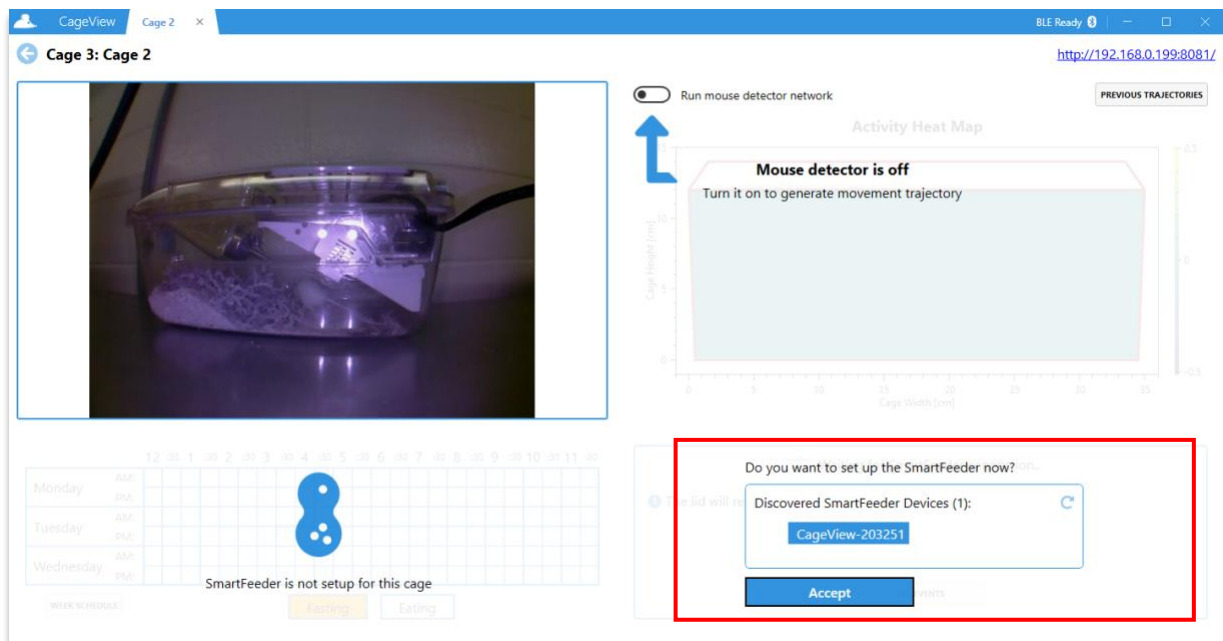

Figure 32. Connecting the SmartFeeder device to an existing CageView
6.2.1 When connecting the SmartFeeder to an existing cage, click the scan button and select your desired SmartFeeder device. Click the "**Accept**" button afterward (Figure 32).